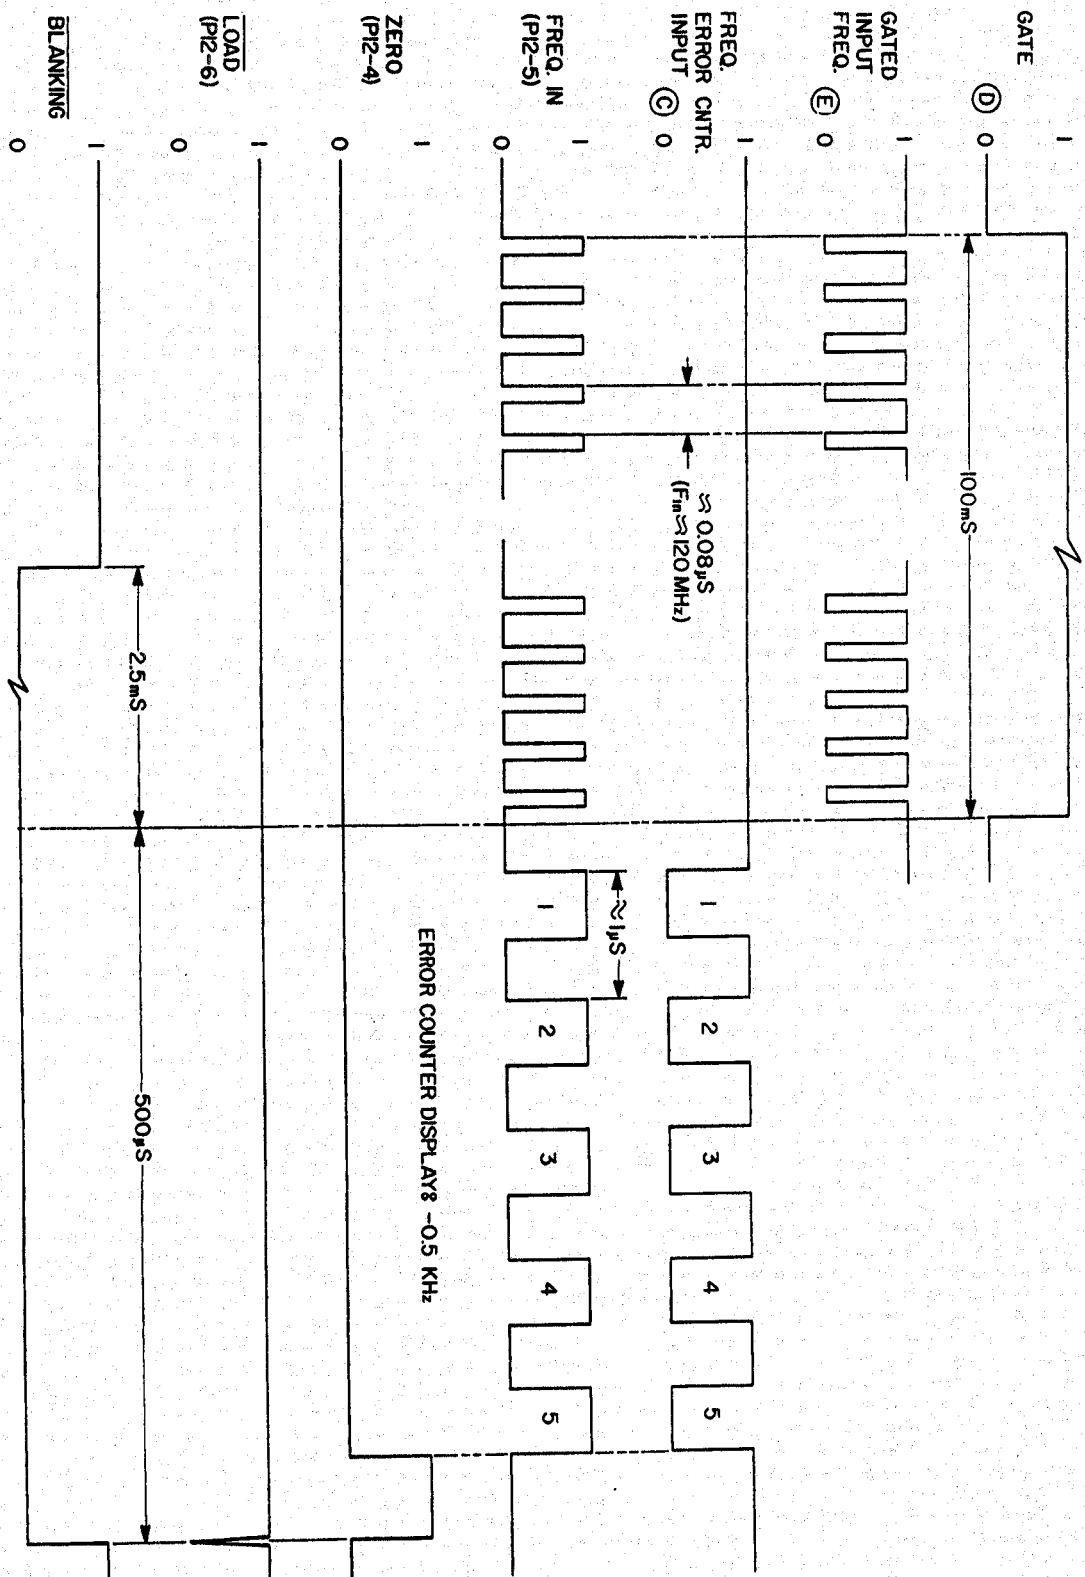

FIG. 4-5
- 4-55. When the input frequency is too low, the GATE falls to logic 0, but a zero count still has not been reached in the programmed counters and ZERO is logic 0. (See Fig 4-5). Now at the falling transition of GATE, X714 is clocked via CR703. X714 Q flips low and releases the inhibit on the pulse oscillator. Its pulses are connected to the programmed divider via X717A and also to the frequency error counter via X717B/C. The Gated Input frequency signal at point E resets high when the gate is closed, i.e., at logic 0. When zero count is reached in X501-506, the logic 1 at ZERO inhibits the pulse oscillator via X708A and stops the frequency error count. The LOAD pulse is generated 500us from the GATE 1-0 transition which resets X714 and reloads the programmed counters.